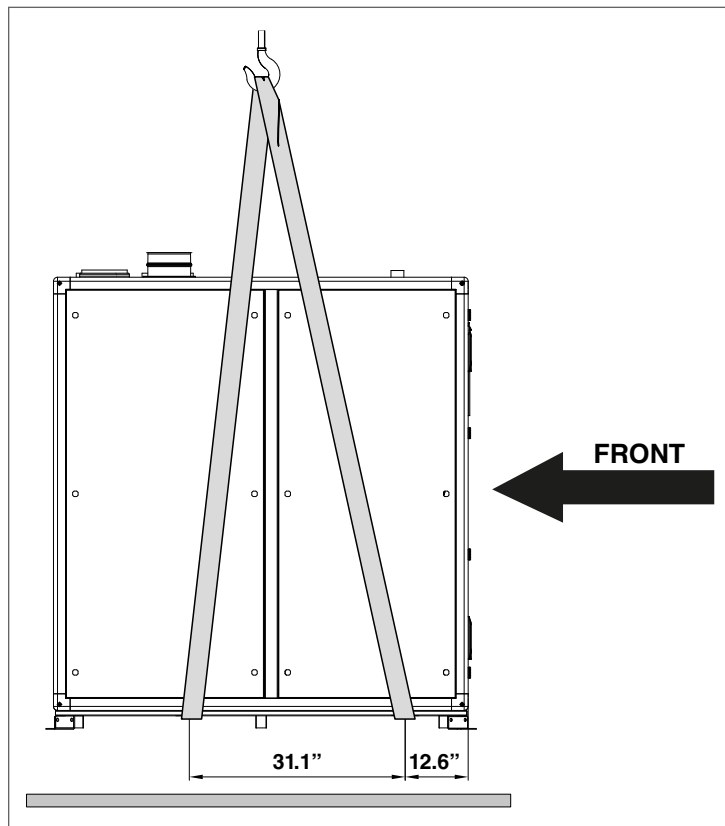
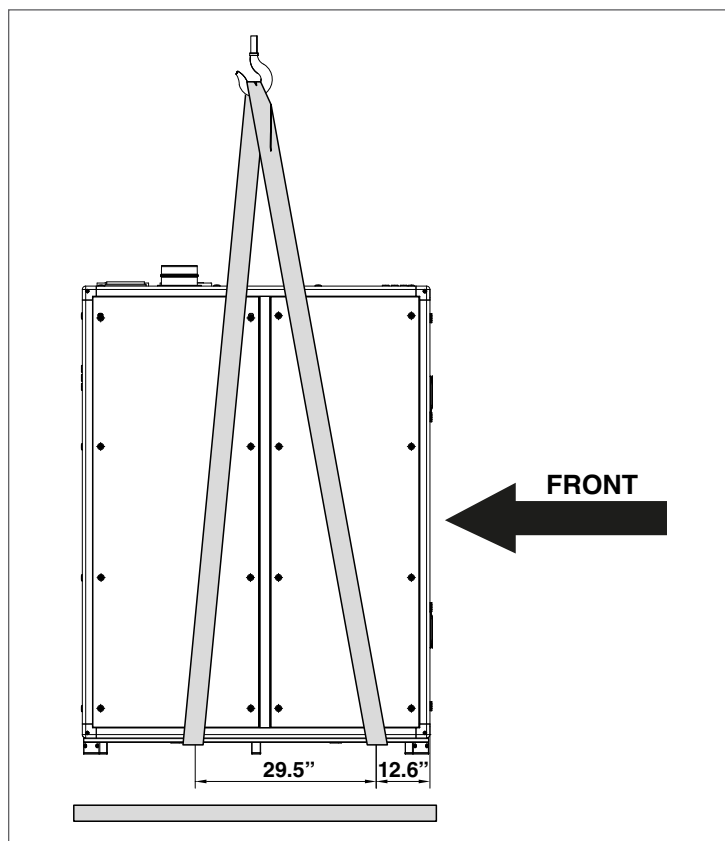

Fig. 5 Array AR 1000, AR 1500 Crane Lifting Handling
Fig. 6 Array AR 2000 Crane Lifting Handling
**⚠ WARNING:** When lifting the boiler with crane: the bands must be positioned according to the Fig. 5 and Fig. 6.